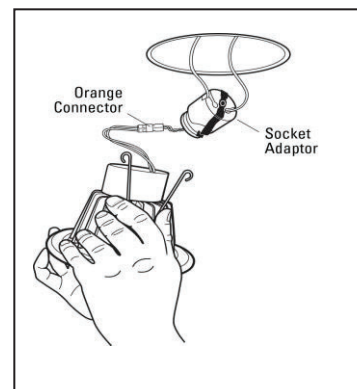

Figure 4
2. Securely screw socket adaptor into socket inside the can. Plug the orange connector of socket adaptor into the LED module's mating orange connector. (Figure 4)